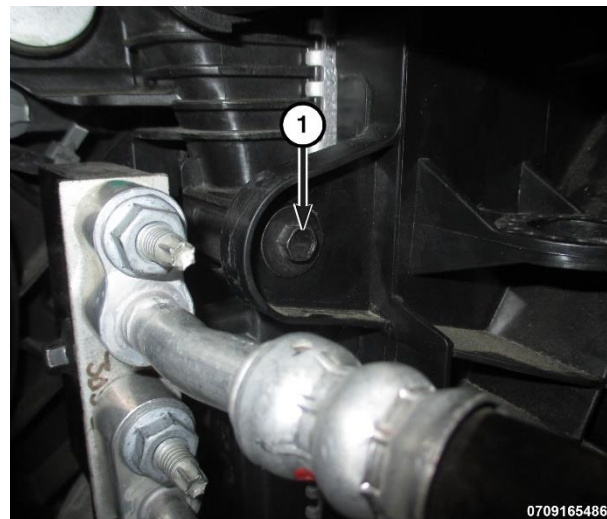

Figure 178 – Left Cooling Fan Bolt
8. Remove the left cooling fan bolt (1) (Figure 178).